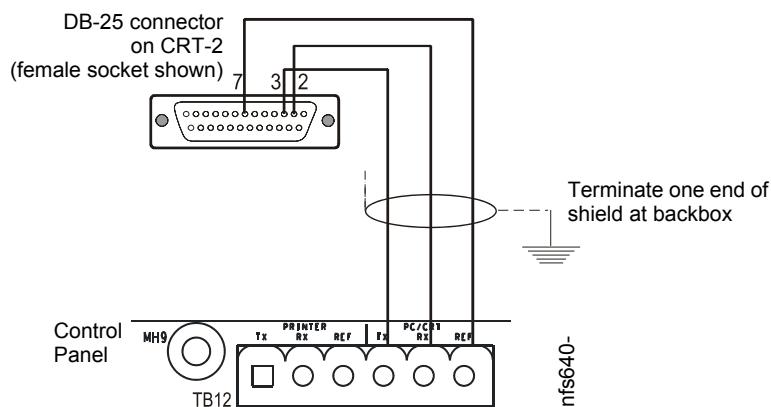

Figure 3.7 Connecting a CRT-2
- Connect the three (3) open leads of the custom cable to the TB12 terminal block on the control panel as shown in Figure 3.7.